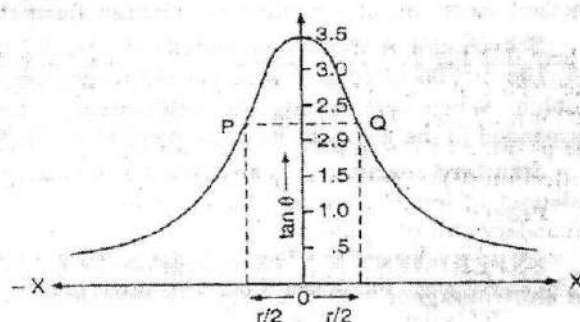

Fig. 31.5
Graphical Calculations. Using the values obtained in above observation table, plot a graph taking distance x on X-axis and $\tan \theta$ on Y-axis. Take $x = 0$ at the middle of X-axis and the values of L.H.S. are taken on $-X$ axis and R.H.S. on $+X$ axis. The graph is a smooth curve as shown in fig. 31.5. There will be two points of inflexion, where the curvature of the curve changes its sign, one on each side of O , corresponding to $d^2F/dx^2 = 0$ at $x = r/2$. In the figure, points P and Q are the points of inflexion. From this we can calculate the radius of the coil i.e. $PQ = \dots \text{cm} = \dots \text{m}$.
1. The variation of magnetic field (B) with distance (x) along the axis of a current carrying coil is as shown in graph (fig. 31.5). The field is strongest at the centre of the coil and decreases gradually on either sides of the coil as one moves away from its centre.